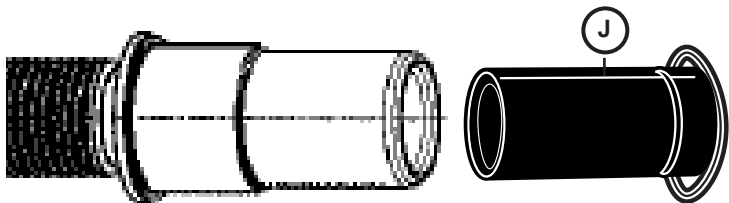

Figure 13
2. Obtain the Rubber Drain Hose Adaptor (J) spring clamp from the Dishwasher Installation Kit (**do not substitute**).
3. Insert the dishwasher drain hose into the **end of the drain hose** (see **Figure 13**.) Be sure to fully insert the drain hose.